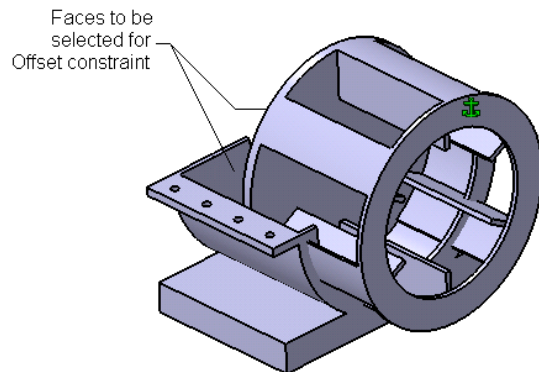

Figure 11-72 Faces to be selected for applying **Offset** constraint
4. Apply the **Offset** constraint between the faces shown in Figure 11-72. Enter **0.635** as the value in the **Offset** spinner and make sure that the **Orientation** is set to **Opposite** in the **Constraint Properties** dialog box. Update the model to bring the blower to its proper position.